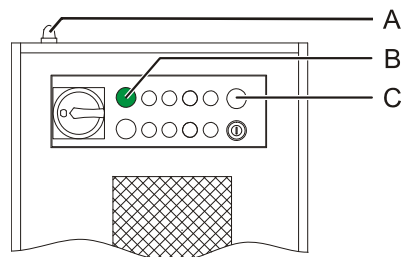

Figure 7: Warning lights
- White laser radiation warning lamp (see Figure 7, A) illuminates when laser radiation is being emitted or can be emitted. The light will continue to light for 15 seconds after emission has stopped.
- Green mains voltage warning light (B) illuminates when mains voltage is applied to the laser device.
- White control voltage warning light (C) illuminates when the control voltage (24 V) is switched on.